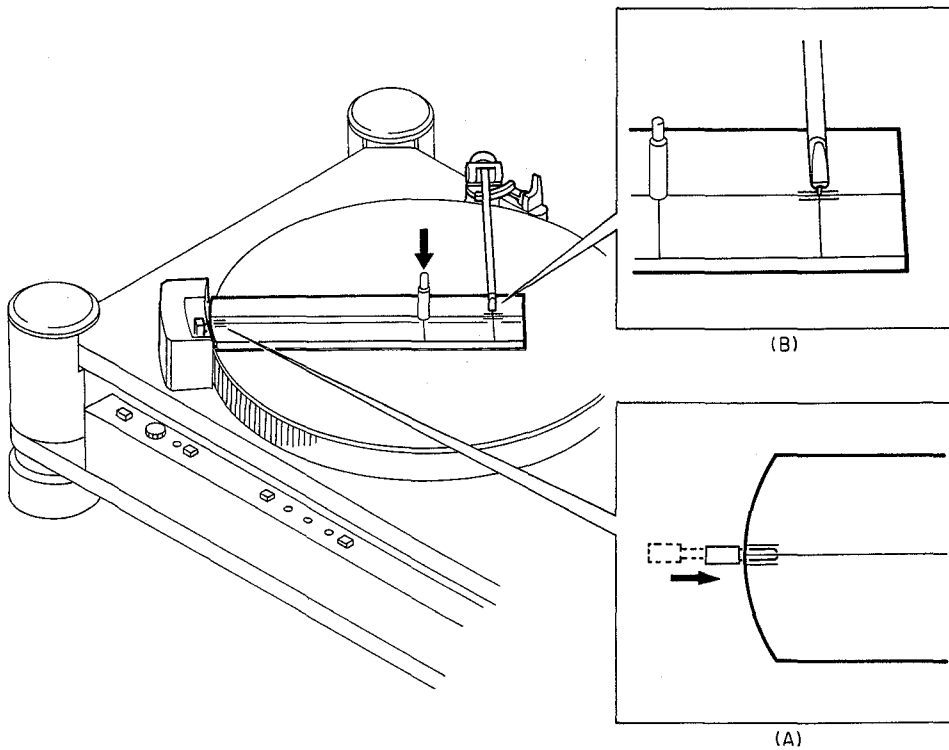

Fig. 5.8
- (1) Put a record on the turntable and press the Center Search Switch to conduct center search operation.
- (2) Turn the power OFF just before the Center Search Rod contacts with the Center Search Platter.
- (3) Return the Sensor Arm to the Arm Rest by hand.
- (4) Remove the record and the Turntable Mat.
- (5) Press the Nominal Center Reset Button (Center Spindle).
- (6) Insert the Stylus Position Check Gauge (OD09024A) into the Center Spindle and place it so that the Rod is located between the scribed lines on the Gauge as shown in Fig. 5.8 (A).
- (7) Position the tip of the Stylus to the intersection of vertical and horizontal scribed lines as shown in Fig. 5.8 (B) and check whether it is located between the scribed short parallel lines on the Gauge.
- (8) Return the Sensor Arm and remove the Gauge.